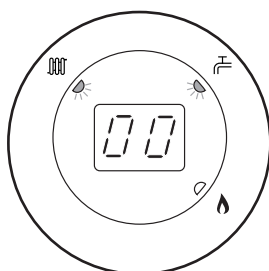
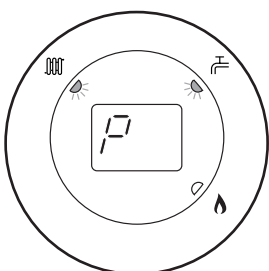

Fig. 69
Fig. 70
7. Turn CH temperature control knob fully clockwise. As the knob is turned the display will change from '0' to '00' (Fig. 69) indicating maximum rate, then revert to 'P' alternating with the current boiler temperature (Figs 70 & 71).